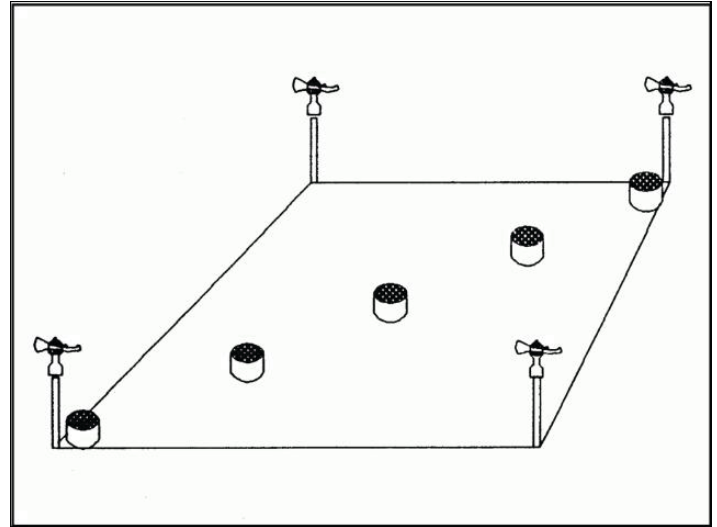
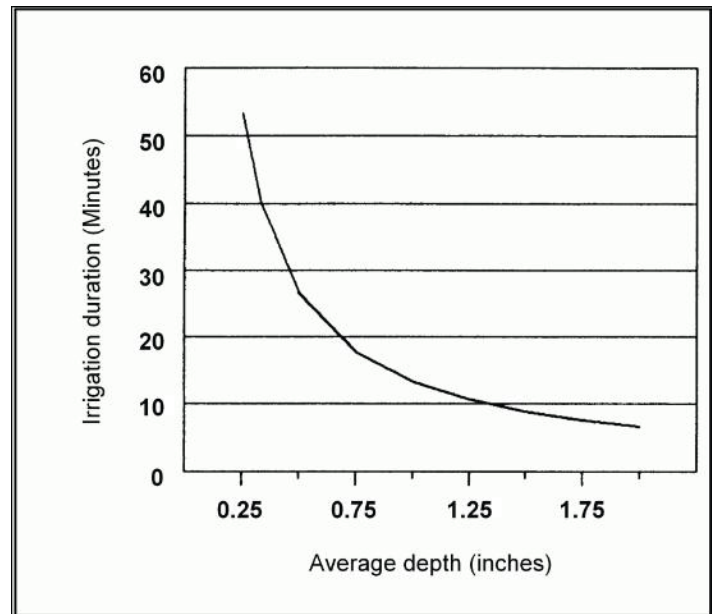

Figure 7. Test-can distribution to measure application rate and uniformity.
Figure 8. Time that an irrigation system should be on to apply 2/3 of an inch of water to a soil that has been depleted 50%.
- *Measuring the depth of water applied.* When a water meter is not available place five wide-mouth, flat-bottom cans spaced equally along the diagonal of four sprinklers (see Figure 7). After 20 minutes of irrigation, turn the system off and use a ruler to measure how deep the water is in each can. Average the five measurements and use the average to determine the time required to apply 2/3 of an inch of water (from Figure 8). For example, if a 20-minute can test resulted in an average water depth of 1/2 of an inch, the time that irrigation system should be turned on in order to apply 2/3 of an inch of water is obtained from Figure 8 as 27 minutes. Any water applied after 27 minutes will be wasted as deep percolation.
- If a hose and sprinkler is used with this method, set the sprinkler pattern to 1/4 of a circle before carrying out the test. Move the sprinkler to each corner of the irrigated area and irrigate for five minutes from each corner for a total of 20 minutes. Obtain the irrigation duration from Figure 8 using the average depth in the cans as previously explained. When irrigating the turf, apply water for the irrigation duration when the hose-and-sprinkler is used in full circle; for 1/2 the irrigation duration when the hose-and-sprinkler is used in half circle; and for 1/4 the irrigation duration when the hose-and-sprinkler is used in quarter circle. Also, if possible, carry out the test in the early morning hours and under no-wind conditions.
The performance of an irrigation system depends strongly on how well the system is designed. First, check the manufacturer's specifications. The irrigation system will not work well if sprinklers are spaced too far apart or operated outside the recommended pressure. This is true of hose-and-sprinkler systems through sensor-controlled systems. A simple test to evaluate the performance of the system is to measure the uniformity of application. This is done by using cans to measure depth of application as previously described. To obtain an idea of the distribution pattern use at least five cans along the diagonals of the sets of four sprinklers as shown in Figure 7. If possible, run the test under no-wind conditions. The variation of depth between the cans should be small ($\pm 10\%$ of the average). If the applied depth is not fairly uniform, it is indicative of design problems, such as improper spacing or operating pressure.